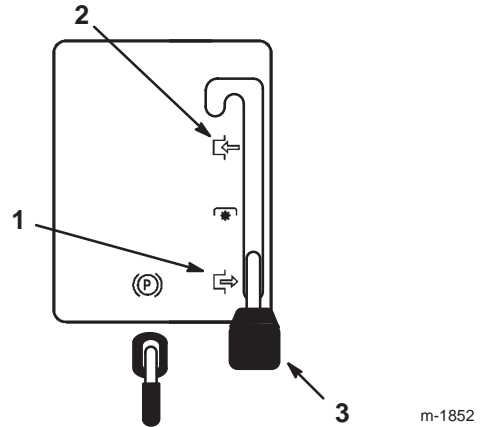

Figure 5
2. Shift the blade control (PTO) lever to Engage (Fig. 5).
2. Shift the blade control (PTO) lever to Disengage (Fig. 5).
4. Shift the blade control (PTO) lever to Disengage (Fig. 5).